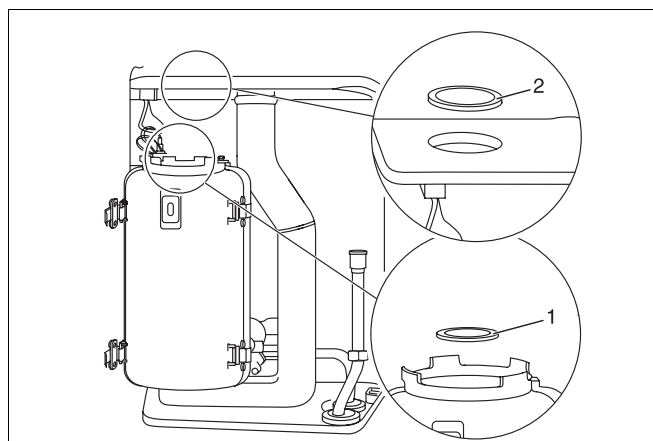

Fig. 42 Remove burner gasket and rubber seal
- Remove burner gasket (fig. 42, item 1).
- Remove rubber seal in combustion chamber by pushing upwards from inside (fig. 42, item 2).
- Remove burner gasket (fig. 42, item 1) and rubber seal in combustion chamber from top (fig. 42, item 2).